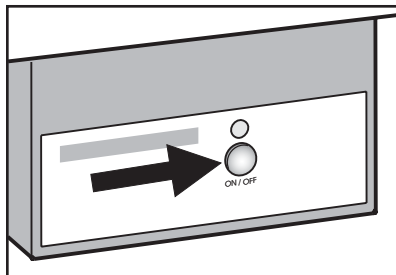

Figure 12
- Press the "ON/OFF" button so the control lamp comes on (**Figure 12**).